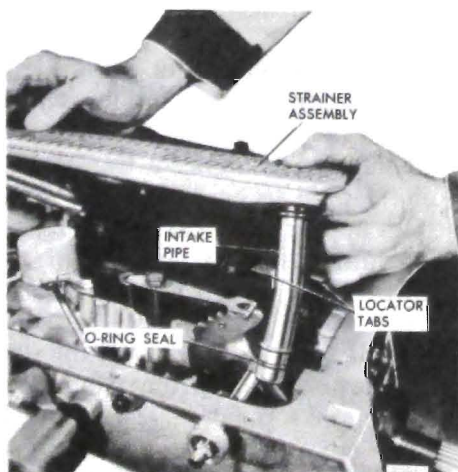

Figure 76-785
1. Install new case to intake pipe "O" ring on intake pipe and new filter assembly. See Figure 76-785.